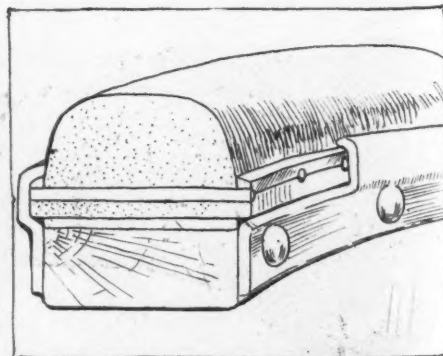

FIG. 3—FIRESTONE SOLID TIRE
**Firestone Side-Wire Flange Tire**—A demountable side-wire tire for commercial vehicle users which is a prominent part of the Firestone exhibit at the Chicago show, is being publicly offered by this company for the first time this year. It is claimed that these tires have been in continuous and successful use on dozens of trucks for about 3 years and their merits thereby thoroughly tested. One compound of regular Firestone rubber stock is used throughout, to insure a maximum amount of wear and protection to the mechanism of the car from the shocks of road travel. The construction of the tire is similar to the regular side-wire tire, except that there is a flange attachment which renders it readily demountable, and that the side wires are four-sided and vulcanized in the tire instead of round and requiring subsequent application. As shown in the section illustrated in Fig. 3, the resilient rubber body of the tire is mounted on a heavy fabric base, which is reinforced by transverse wires placed at intervals of about 1 inch apart around the whole circumference of the tire. The ends of two of these have been made visible in the illustration by cutting away a section of the inner flange. The inner side wire is also clearly shown, and the bevel on its upper exposed side contacts with a corresponding bevel on the inner lip of the flange, which when tightly drawn up forms a secure and water-proof joint. With this tire a repair or replacement may be made readily without